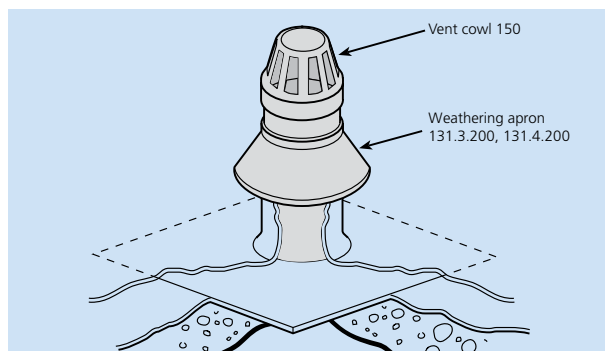

Fig. 66
- Slide 131 Weathering Apron over stack and solvent-weld in position. Place 150 Vent Cowl onto stack and solvent-weld into position (Fig. 66).